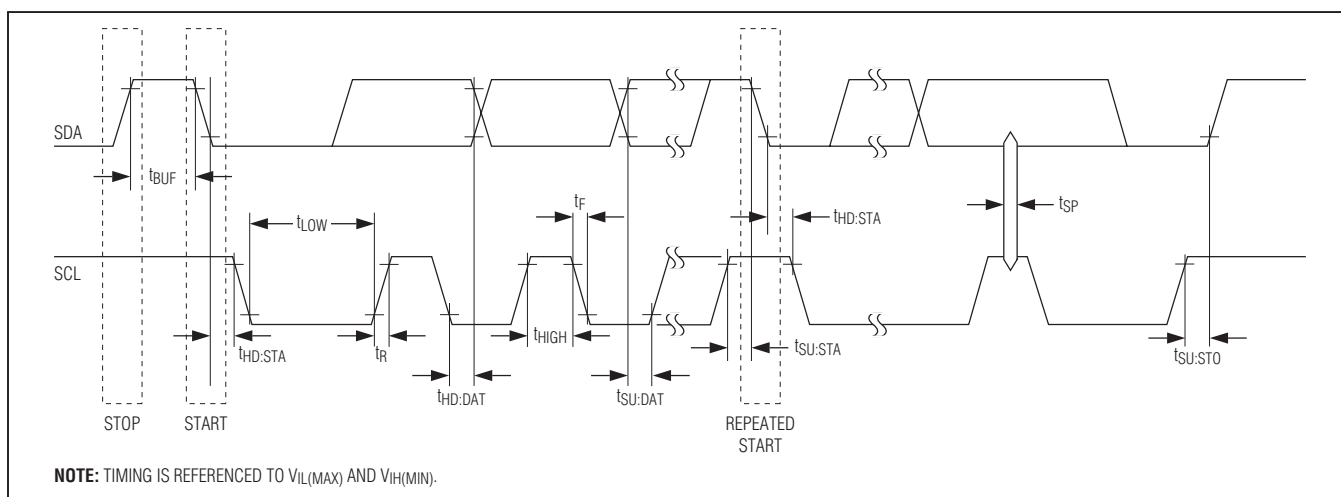

Figure 19. I2C Timing Diagram
**START Condition:** A START condition is generated by the master to initiate a new data transfer with a slave. Transitioning SDA from high to low while SCL remains high generates a START condition. See Figure 19 for applicable timing.
**STOP Condition:** A STOP condition is generated by the master to end a data transfer with a slave. Transitioning SDA from low to high while SCL remains high generates a STOP condition. See Figure 19 for applicable timing.
**Repeated START Condition:** The master can use a repeated START condition at the end of one data transfer to indicate that it will immediately initiate a new data transfer following the current one. Repeated STARTs are commonly used during read operations to identify a specific memory address to begin a data transfer. A repeated START condition is issued identically to a normal START condition. See Figure 19 for applicable timing.
**Bit Write:** Transitions of SDA must occur during the low state of SCL. The data on SDA must remain valid and unchanged during the entire high pulse of SCL plus the setup and hold time requirements (Figure 19). Data is shifted into the device during the rising edge of the SCL.
a bit read (Figure 19). The device shifts out each bit of data on SDA at the falling edge of the previous SCL pulse and the data bit is valid at the rising edge of the current SCL pulse. Remember that the master generates all SCL clock pulses, including when it is reading bits from the slave.
**Acknowledgement (ACK and NACK):** An acknowledgement (ACK) or not-acknowledge (NACK) is always the 9th bit transmitted during a byte transfer. The device receiving data (the master during a read or the slave during a write operation) performs an ACK by transmitting a zero during the 9th bit. A device performs a NACK by transmitting a one during the 9th bit. Timing for the ACK and NACK is identical to all other bit writes (Figure 19). An ACK is the acknowledgment that the device is properly receiving data. A NACK is used to terminate a read sequence or as an indication that the device is not receiving data.